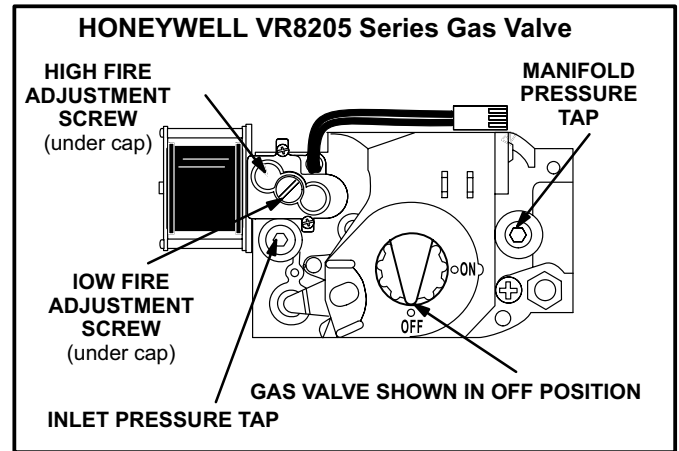

FIGURE 13
All units use a two-stage gas valve manufactured by Honeywell (figure 13). The valve is internally redundant to assure safety shut-off. If the gas valve must be replaced, the same type valve must be used.
- 6 - *Honeywell VR8205 Gas Valve* - Turn knob on gas valve clockwise ➡ to **OFF**. Do not force. See figure 13.
8 - *Honeywell VR8205 Gas Valve* - Turn knob on gas valve counterclockwise ↶ to **ON**. Do not force. See figure 13.
When testing supply gas pressure, connect test gauge to inlet pressure tap on unit gas valve (GV1). See figure 13. Check gas line pressure with unit firing at maximum rate. Low pressure may result in erratic operation or underfire. High pressure can result in permanent damage to gas valve or overfire. See table 15 for operating pressure at unit gas connection (line).